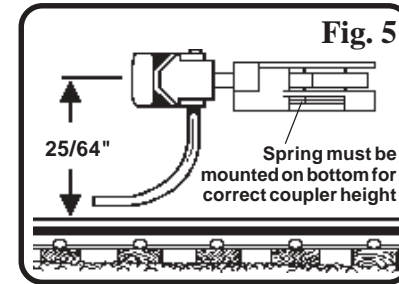

Fig. 5
14. Set the chassis on the track and check the coupler for correct height with the Kadee® #205 height gauge, (see Fig. 5) adjusting as described in the enclosed #30 series coupler instruction sheet. Be sure the trip pin does not drag on the uncoupling magnet, also making sure it swings freely for uncoupling. Use Kadee® #231 Grease-em lubrication for obtaining maximum results.